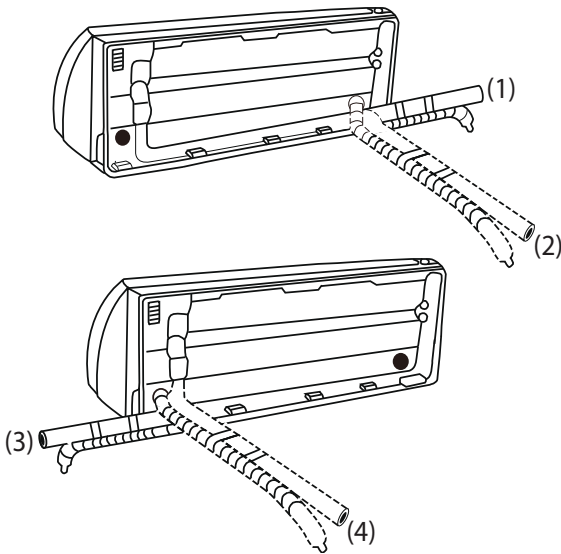

Fig. 11 —Piping Angle
NOTE: (Piping Angle) Refrigerant piping can exit the indoor unit from four different angles facing the front of the unit (see Fig. 11):
2. If the wall hole is behind the unit, keep the knock-out panel in place. If the wall hole is to the side of the indoor unit, remove the plastic knock-out panel from that side of the unit (see Fig. 11). This creates a slot through which your piping can exit the unit. Use needle nose pliers if the plastic panel is too difficult to remove by hand.